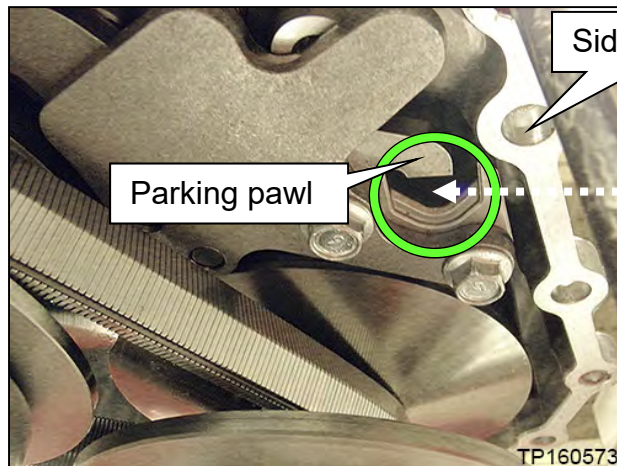
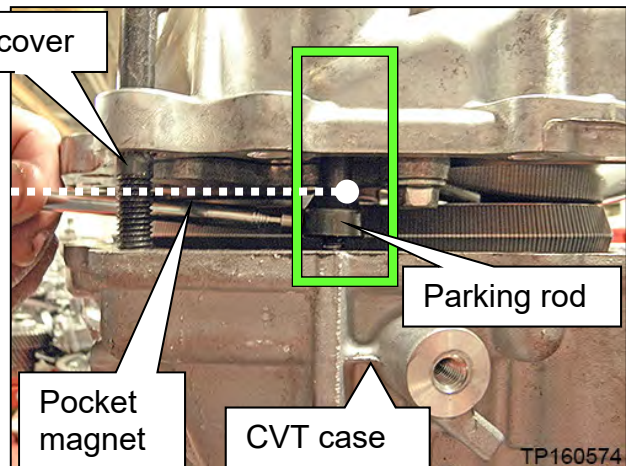

Figure 96
Figure 97
- b. Use a magnet, or similar tool, to align the park rod in the CVT case ( in Figure 97) with the opening in the parking pawl ( in Figure 96) in the side cover.